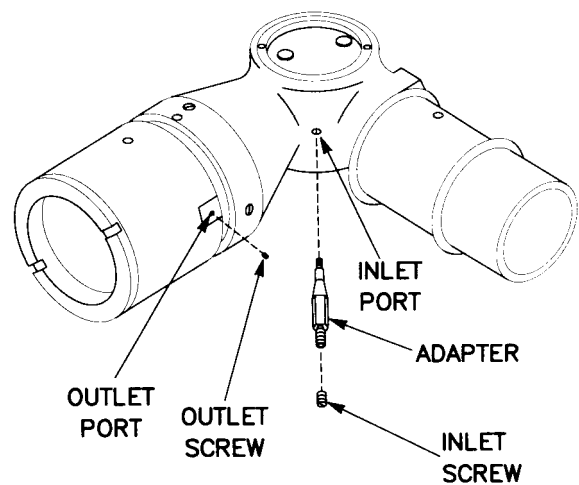

Figure 3-69 M139 Elbow Telescope
c. Elbow Telescope, M16 and M116 Series (fig. 3-69). Refer to para 3-15.f. for procedures.
(1) Perform purging and charging procedure para 2-5.a.
(2) Purge instrument at 8 psig for 5 minutes.
(3) Ensure relief valve closes at 5 psig.
(4) Leak test for minimum of 5 minutes.
f. Elbow Telescope, M139 (fig. 3-69).